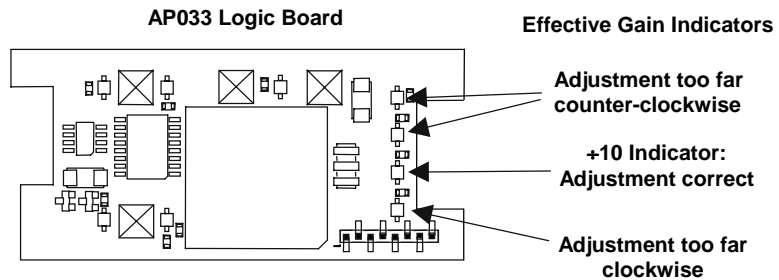

Figure 12.  $\pm 10$  Effective Gain Indicator
7. In Cal Mode, the **EFFECTIVE GAIN** indicators serve as an adjustment indicator. The **EFFECTIVE GAIN** indicators are located on the Logic Board (See Figure 12.) It may be necessary to hold the boards in your hands to see the indicators while making the adjustment.